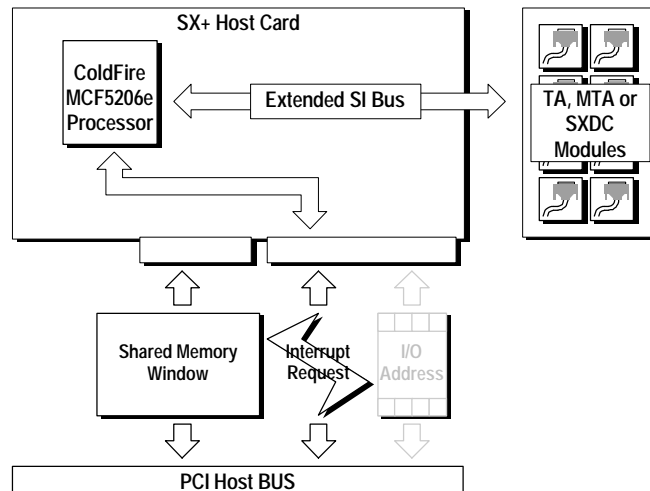
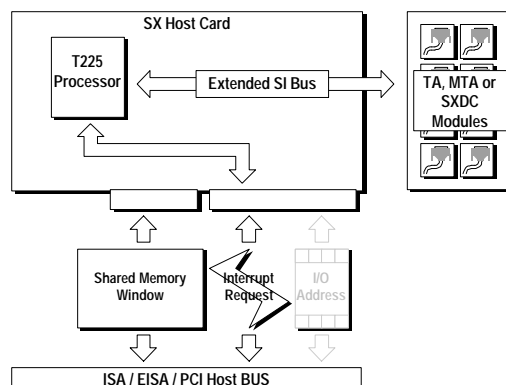

Figure 2 SX+ Hardware Architecture
Figure 3 SX Hardware Architecture
5.1.1 Figure 2 and Figure 3 show the basic architecture and components of the SX+ & SX host cards.